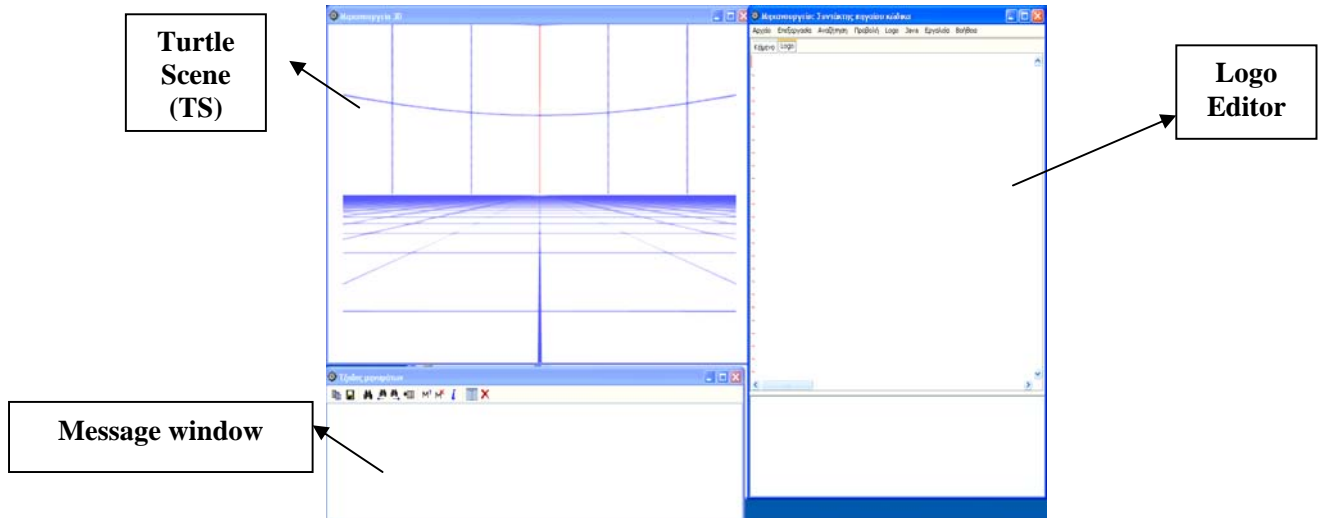

Figure 1: The main part of the final version of MaLT without any procedure (and thus any of the variation tools).
- *Turtle Scene (TS)*. The main part of this component provides representations of geometric objects allowing navigation within the 3D virtual space (Figure 1).
- *Logo Editor (LE)*. This component is the Logo-like programming interface. The user is able to write, run and edit Logo programs. For a detailed description of all the available commands, see the Specifications of the First Version of MaLT, www.remath.cti.gr in Forum, WP2) (Figure 1).